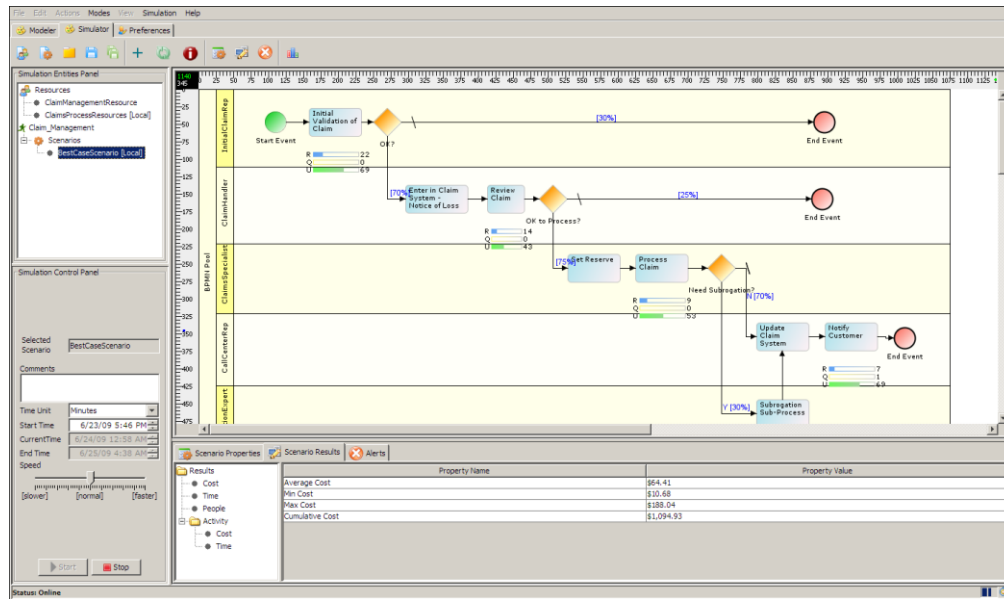

Figure 18: Simulation Progress
8. To start the simulation, click the **Start** button. The simulation scenario execution starts. A graphical representation is shown in the graph canvas and the result of the simulation is shown in **Simulation Result** panel (see Figure 18).